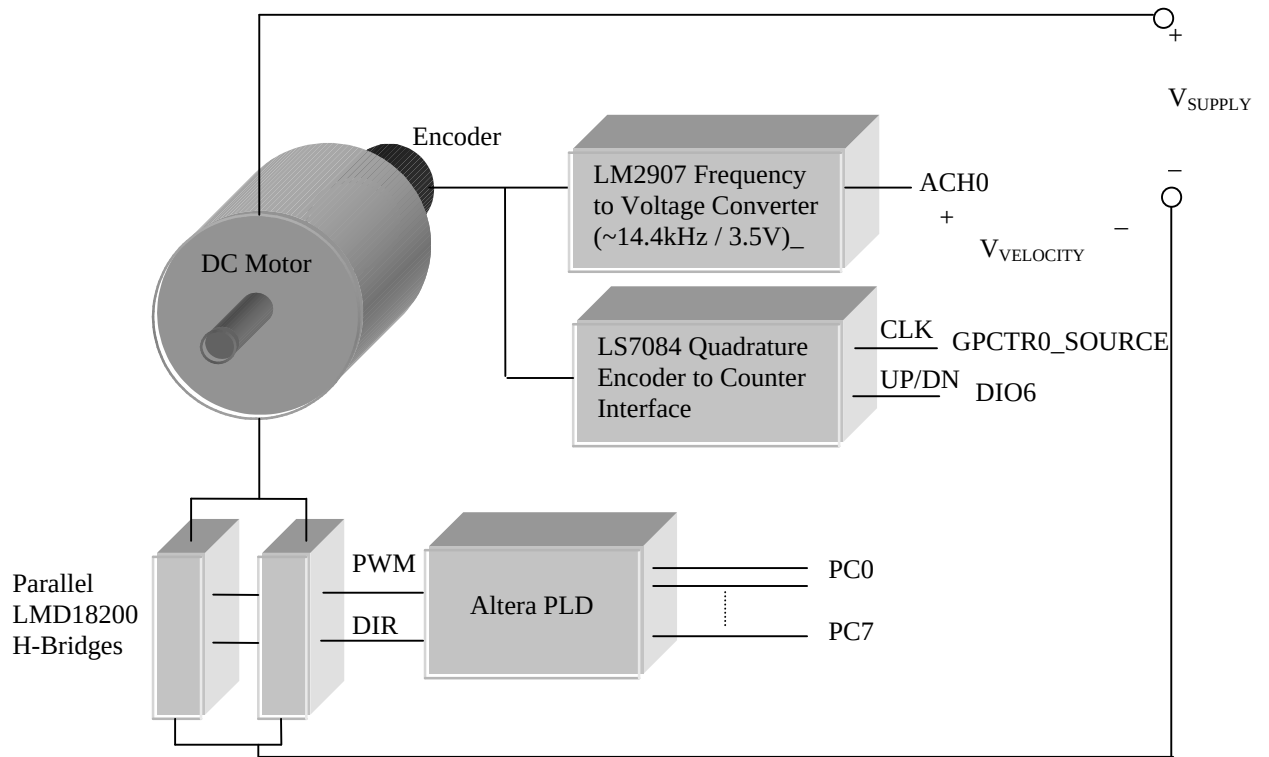

Figure 2: DC Motor Experiment Setup
5. Download the VI lab5.vi and its associated sub VI Counter_Setup.vi from N:/EE443L/LAB5/. This VI utilizes a counter on the data acquisition board connected to a LS7084 quadrature encoder to counter interface device as shown in figure 2. This implementation utilizes the rising and falling edges and phase difference of the two quadrature encoder signals to yield 2000 counts per revolution of the motor from 500 count encoders. Run the VI without motor power and turn the motor one full revolution in both directions to verify the 2000 counts per revolution.